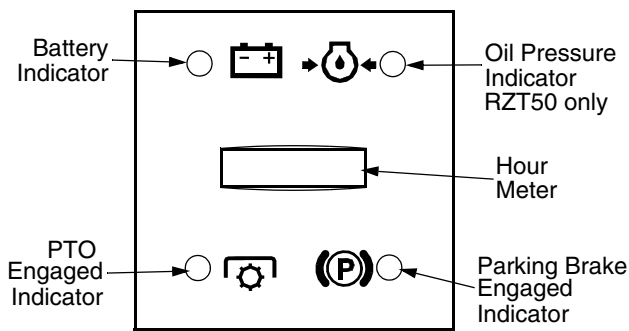

Figure 7
**Battery Indicator** (Refer to Figure 7)
**Oil Pressure Indicator** - RZT50 ONLY (See Figure 7)
**PTO Engaged Indicator** (Refer to Figure 7)
**Parking Brake Engaged Indicator** (Refer to Figure 7)